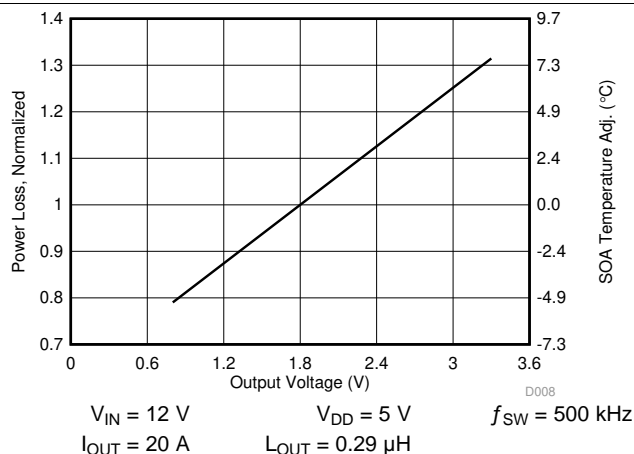

Figure 8. Normalized Power Loss vs Output Voltage
- Normalized power loss for output voltage \approx 0.93 (Figure 8)
- SOA adjustment for output voltage \approx 1°C (Figure 8)